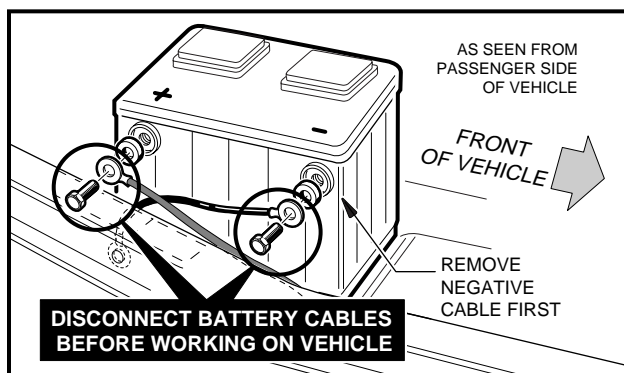

Figure 1 Battery Cable Removal
- DISCONNECT BATTERY, NEGATIVE (–) CABLE FIRST (**FIGURE 1, PAGE 9**).